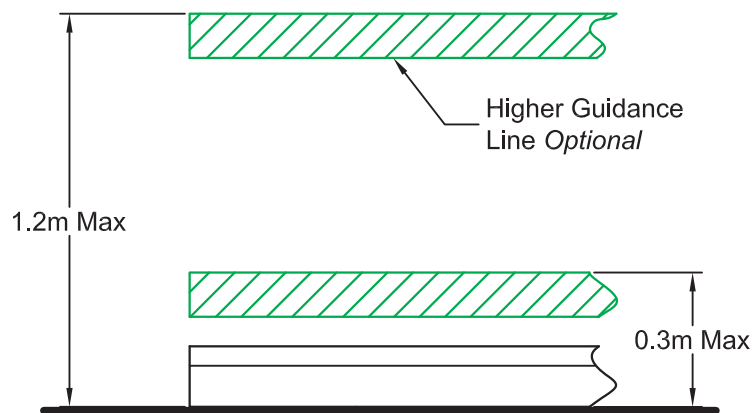

Figure 1.0 Recommended Positioning Heights
STEP 1: Measure basic linear dimensions taking into account distances for different height levels, angular dimensions will need to be measured for the following: any sudden changes in height i.e. disability ramps, stairs etc, also if profile is required to follow any wall or door geometry i.e. right angles, internal/external mitres etc. Recommended distances for height level of profile shown below in Figure 1.0